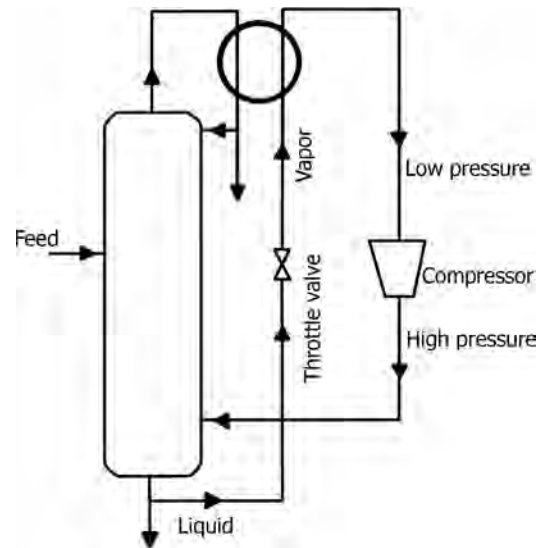

FIGURE 12.6 Distillation column using process fluid as a refrigerant.
- If the conditions are suitable, the process fluid can be used as the working fluid for the heat pump as shown in Figure 12.6.